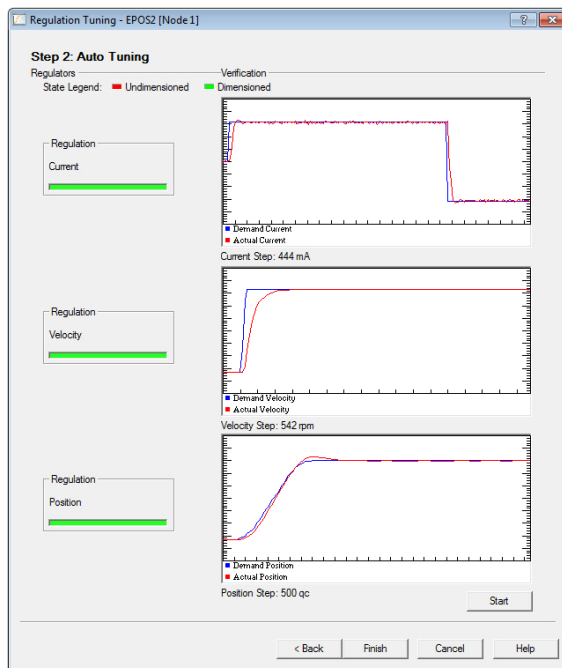

Figure 3-35 End of Auto Tuning
- Auto Tuning is complete as all three status bars changed to green (→Figure 3-35).